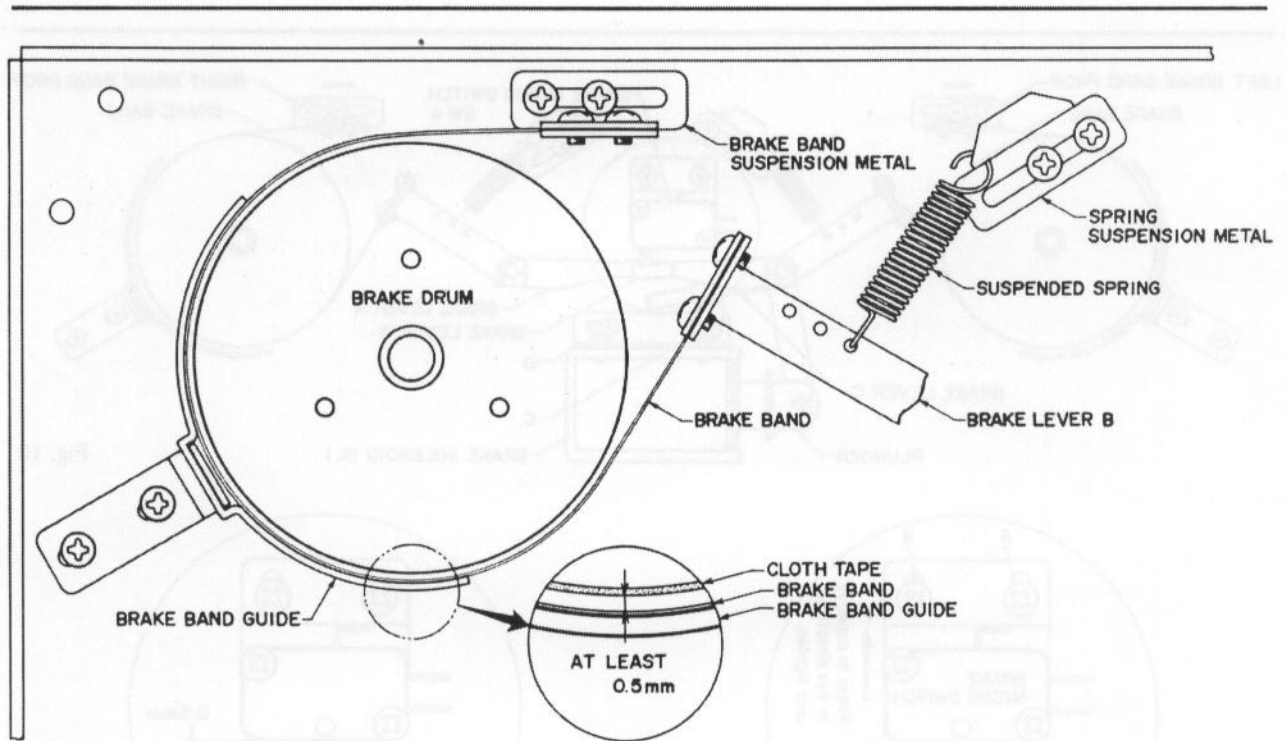

Fig. 13
- 2) Methods for brake tension adjustment are as follows: (See Fig. 13)
NOTE: Following Brake Tension Adjustment, confirm that when the machine is set to each of the various modes (except stop mode), the brake band separates from the cloth tape on the brake drum by at least 0.5 mm. (See Fig. 13)